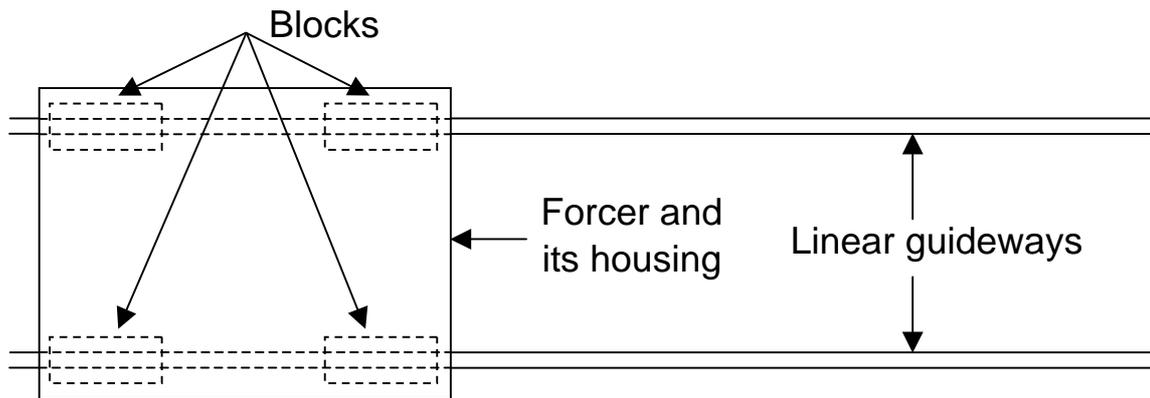

Figure 1. Installation of the forcer its housing
- (1) Install the linear guideways and ensure their straightness and parallelism. (Install at least one guideway on each side. Each linear guideway should have sufficient blocks on it. Be careful about the direction of the blocks' grease nipples for future lubrication.)
- (2) Fix the forcer on your forcer housing. It's better you tighten the screws from the center to both sides. Then fix the forcer housing on the blocks (figure 1). **Make sure the gap between the forcer and the stator is in the range of 0.8 to 1.0 mm for LMS and LMF. (Please refer to standard forcer and stator drawings)** If the gap lies outside the range, either the cogging force will be prominent, or the thrust will be reduced.